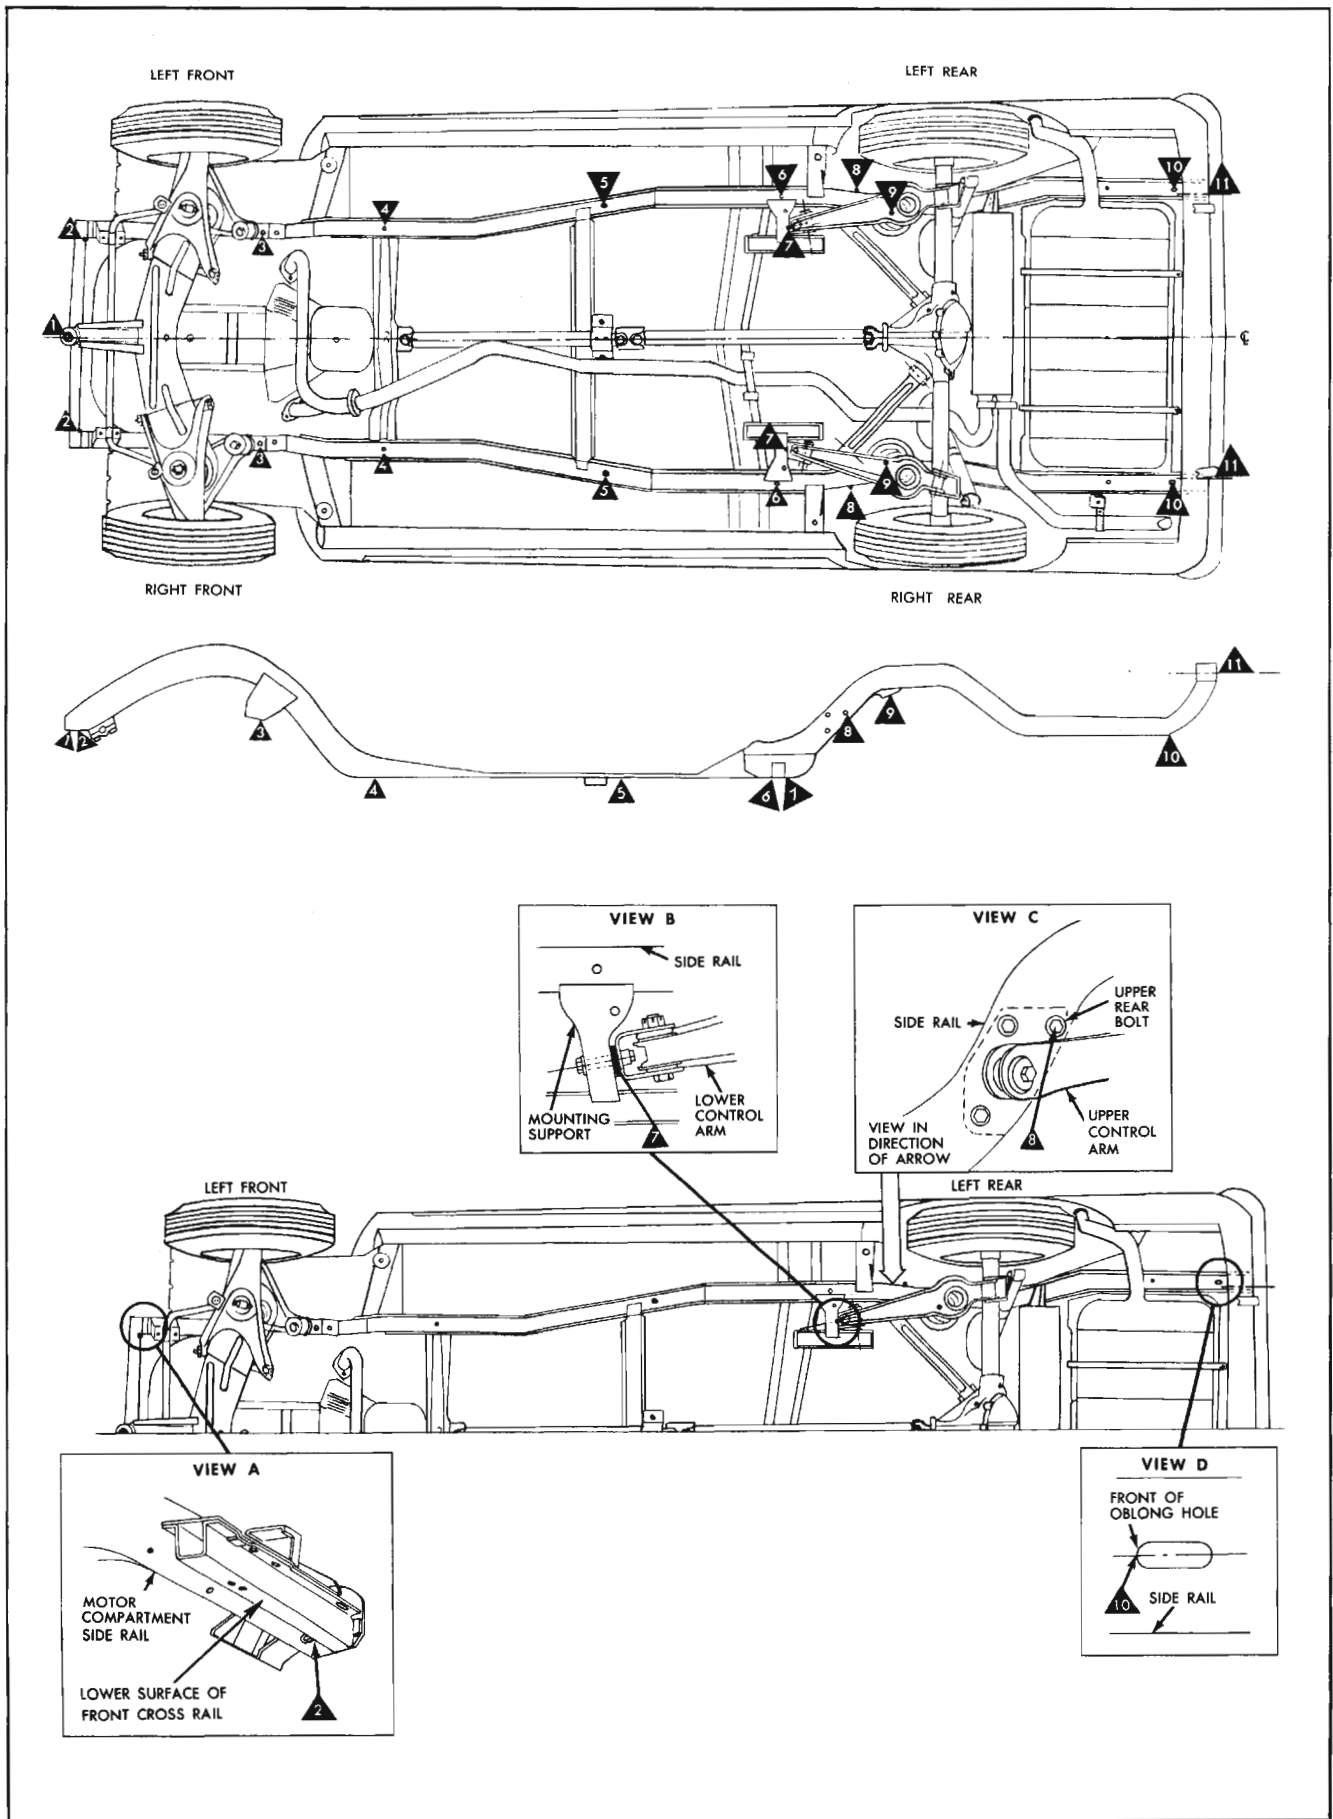

Fig. 16-202 Location of Underbody Alignment Reference Points
Figure 16-202 shows the specific reference points used in making underbody measurements. Dimensions to gauge holes and other unthreaded holes are measured to dead center of the holes and flush to the adjacent surface metal.
2. Rear edge of front cross rail at point of contact with inboard facing of motor compartment side rail. See View "A" in Fig. 16-202.
7. Lower rear edge of rear suspension mounting support, directly below center of rear axle lower control arm front support bracket attaching bolt hole. See View "B" in Fig. 16-202.
8. Center of rear axle upper control arm upper rear attaching bolt hole on outboard side of rear compartment side rail. See View "C" in Fig. 16-202.
10. Center front edge of oblong hole in bottom surface of rear compartment side rail (located slightly forward of rear end lower panel). See View "D" in Fig. 16-202.
The tramming sequence will vary depending upon the nature and location of the misaligned area. Basically there are eleven key reference points that should be utilized when making underbody alignment checks. These reference points are shown on Fig. 16-202.